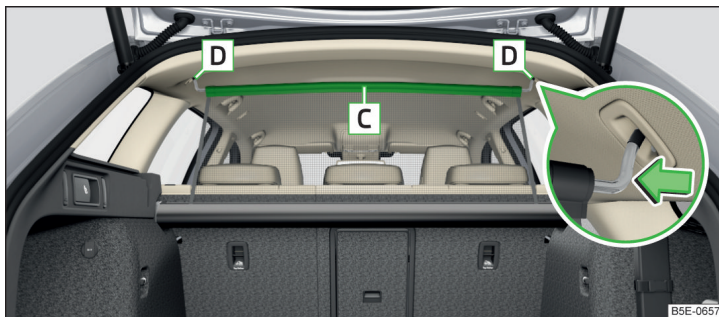

Fig. 148 Correctly secure net partition behind the front seats in the pulled-out state
- › Pull out the net partition at the crossbar **C** and hook into one of the receptacles **D** » Fig. 148.
- › Press on the crossbar and remove it from the receptacles **D** » Fig. 148, first on one side, then on the other side.